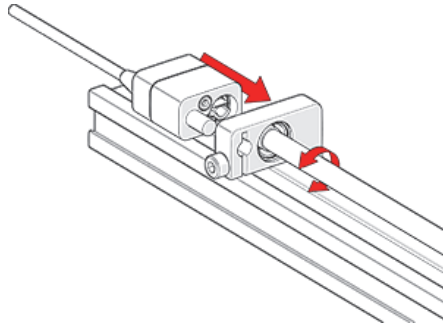

Figure 3-38 Align and mount post
2. Insert the encoder post in the index encoder support bracket while aligning the leadscrew shaft with the encoder socket (see Figure 3-38 on page 62).